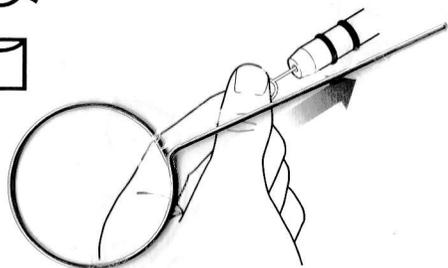

fig. 34
- 3 Use the provided nozzle cleaner or a small diameter stiff metal wire, such as a straightened metal paper clip, and carefully insert the end of the wire into the nozzle orifice. See illustration above. (fig. 34)